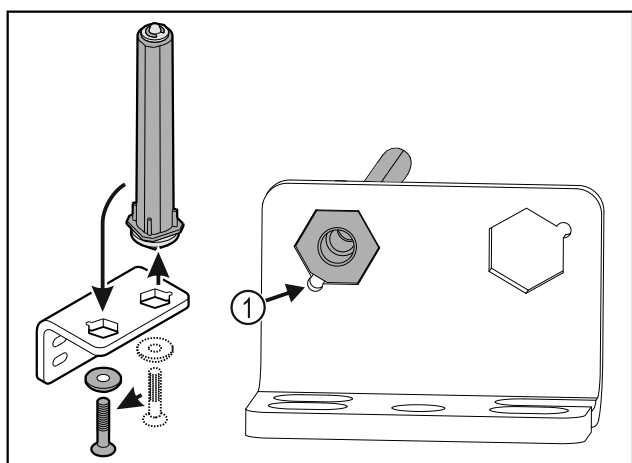

Fig. 32
- ▶ Make sure the pin chamfer Fig. 32 (1) faces the round hole when you put it in.